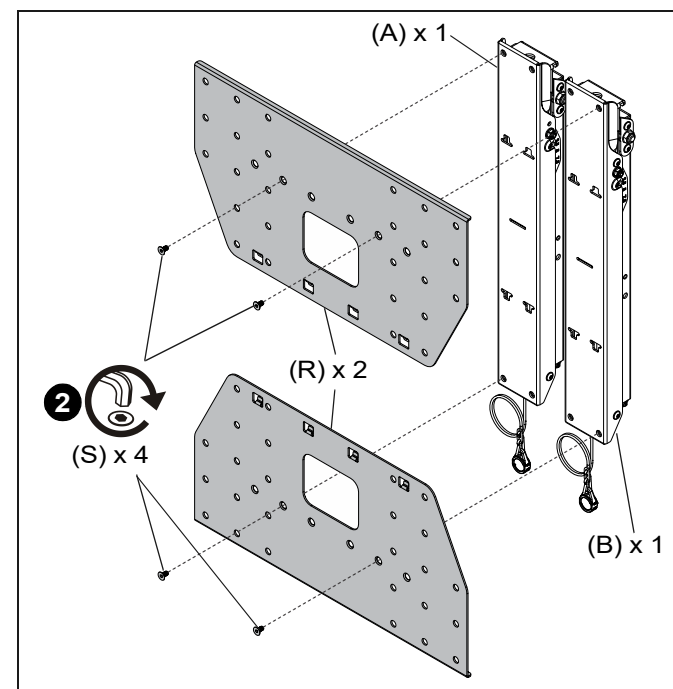

Figure 20
2. Install two 600x400 interface adapters (R) to the "A" interface (A) and "B" interface (B) using four #10-24 x 3/8" hex screws (S). (See Figure 20)